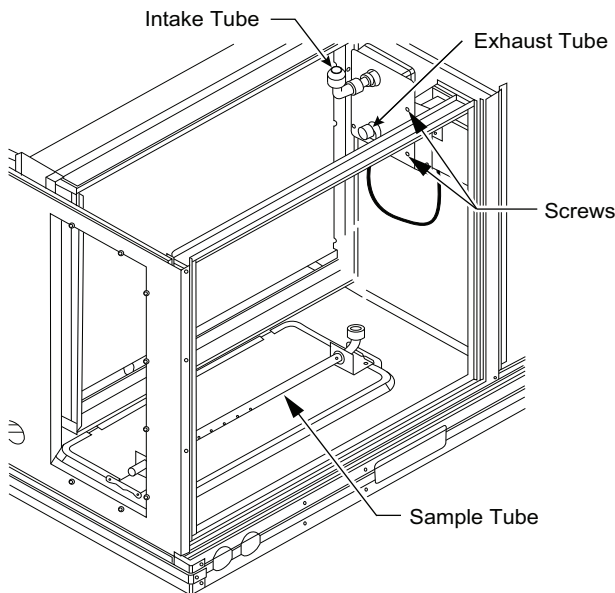

Fig. 45 — Return Air Smoke Detector Shipping Position
1. Unscrew the 2 screws holding the return air sensor detector plate. See Fig. 45. Save the screws.